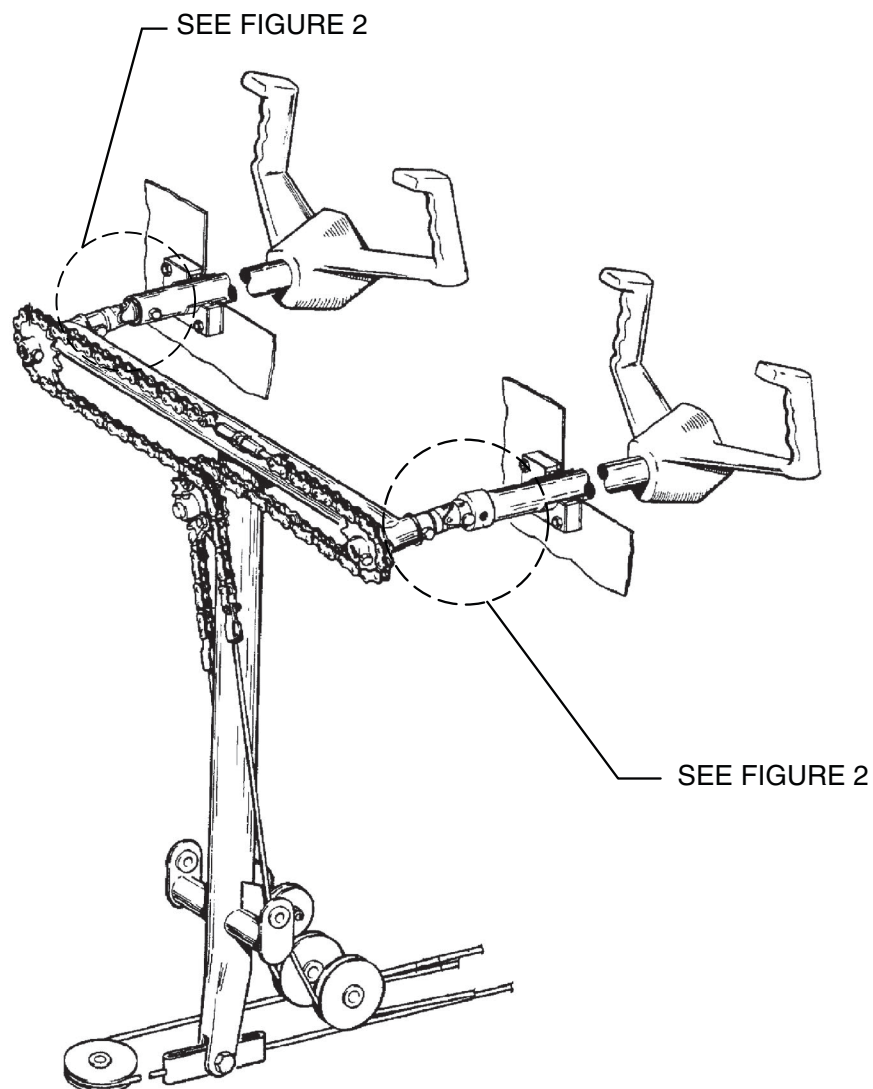

Figure 1
2. Locate the shaft and the universal joint (2 per aircraft), which are fastened together with a threaded taper pin, as shown in Figures 1 and 2. These components are installed on the aft side of the T-bar assembly.